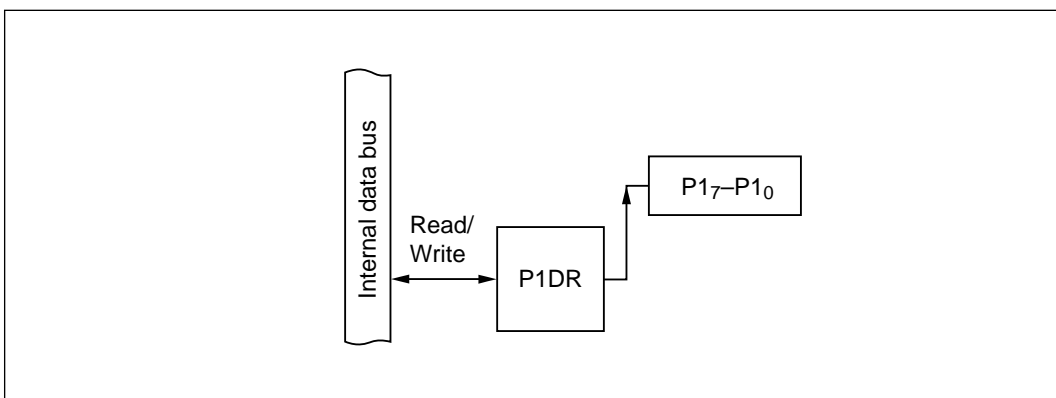

Figure 10-7 Output Port (Mode 7)
(3) Output Port (Mode 7): Figure 10-7 shows a block diagram illustrating the general-purpose output function. Table 10-6 indicates register read/write data. The value written in the port 1 data register (P1DR) is output at the pin. When read, P1DR returns the value written in P1DR.